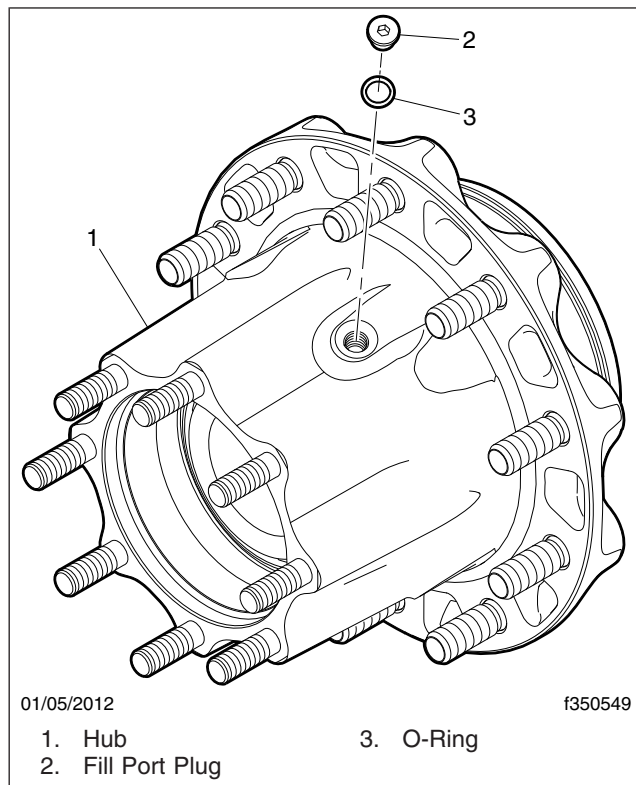

Fig. 10, Hub with Oil Fill Port
11. Clean the area surrounding the oil fill port plug, then remove the plug and O-ring. See **Fig. 10**.